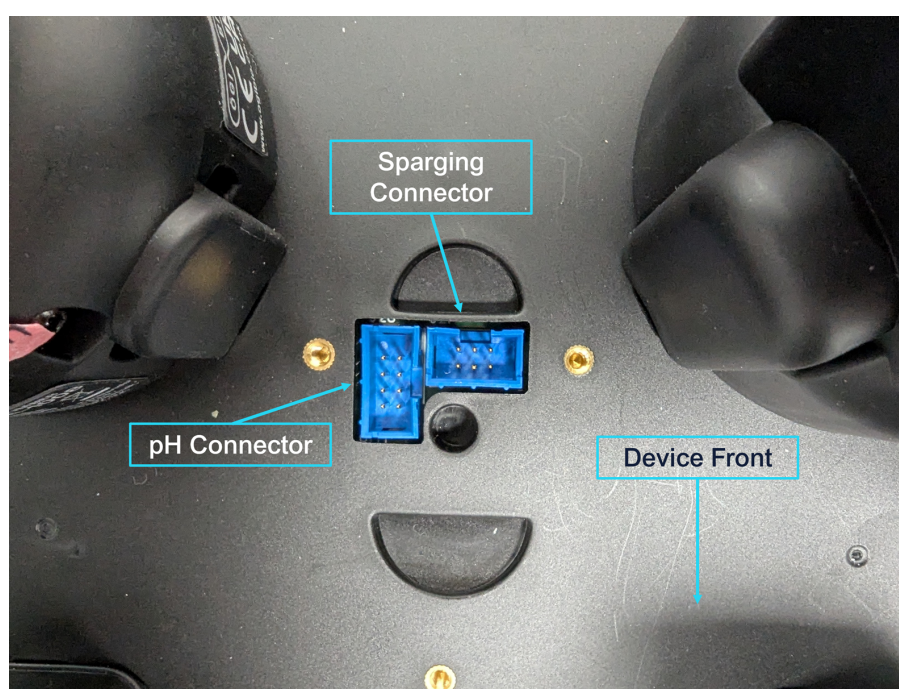

Figure 17: Top Connectors and screw holes
3. Find the connector on the underside of the pH module, and connect to the 8-pin connector as shown in Figure 17: